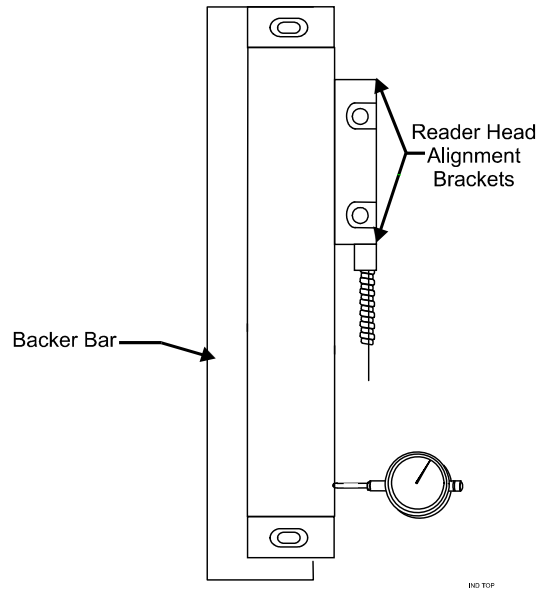

Figure 3-50, Aligning the Z-Axis Linear Encoder
7. Attach an indicator to the stop block. As you move the quill up and down its entire travel, indicate the edge of the backer bar. Ensure that the backer bar's vertical alignment is parallel to quill travel. Any misalignment will be visible when the installation is completed. Refer to **Figure 3-50, Aligning the Z-Axis Linear Encoder**.